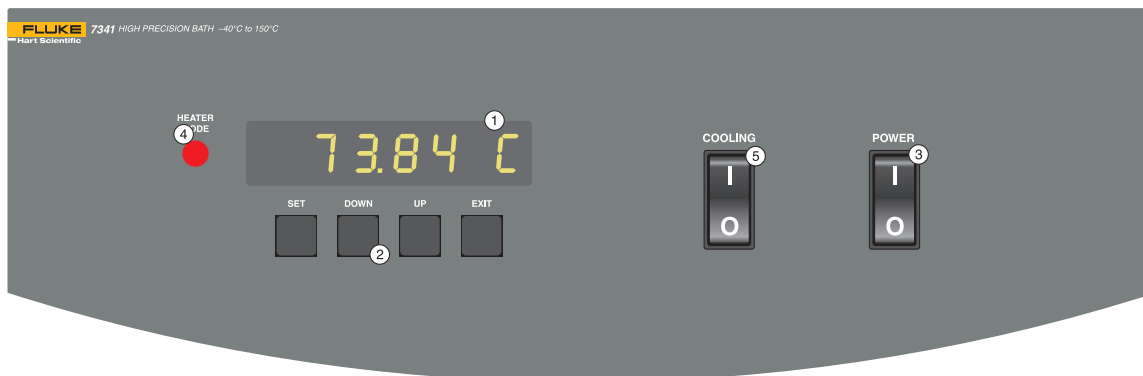

Figure 7-1. Front Control Panel
The following controls and indicators are present on the controller front panel (see Figure 7-1): (1) the digital LED display, (2) the control buttons, (3) the bath on/off power switch, (4) the control indicator light, and (5) the cooling on/off switch.